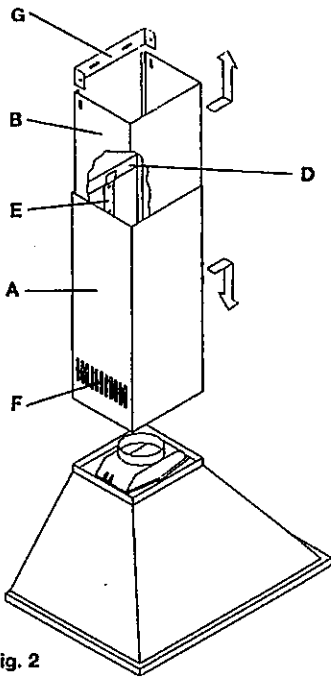

Fig. 2
In this case, air is circulated through opening F (Figure2). In order for the hood to function as a filtering purifier, two active carbon filters, supplied as separate accessories, must be used. The active carbon filters must be replaced periodically to work properly, at least once every three months (depending on the frequency with which the hood is used.) (Fig.4)
- Mark the wall at the location of support E (Figure2) according to the heights and specifications shown on the attached template.
- Place tube A (Figure2) with the extendible part B hanging on the inside, making sure that billet D (Figure2) is correctly attached to support E (Figure2).